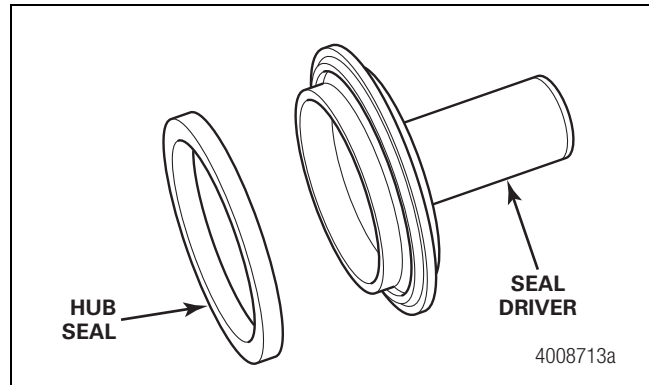
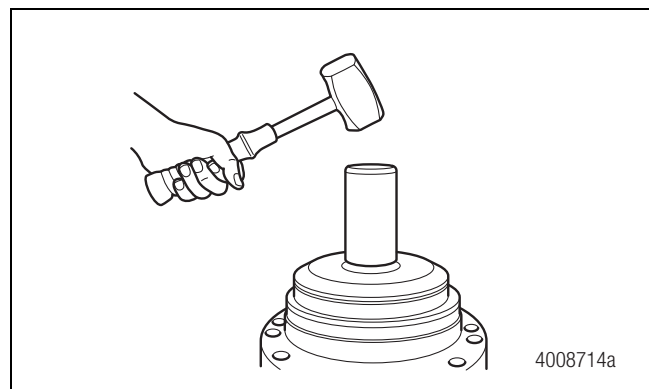

Figure 11.6
Figure 11.7
8. Use a seal driver to press the seal into the hub. Figure 11.6 and Figure 11.7.